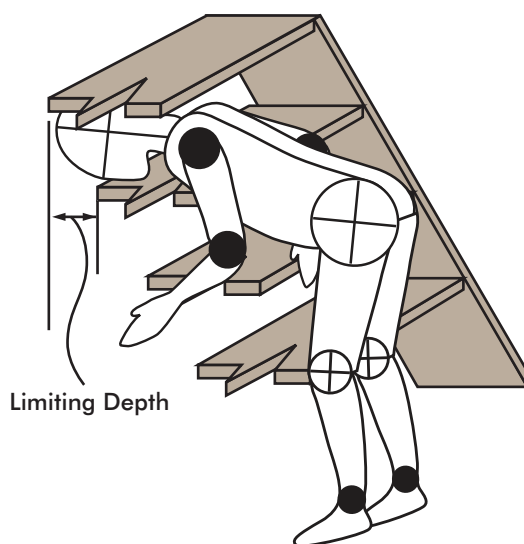

Figure B15. Completely bounded opening with limited depth
These recommendations apply to all playground equipment, i.e., toddler, preschool-age, and school-age children. Fixed equipment as well as moving equipment (in its stationary position) should be tested for entrapment hazards. There are two special cases for which separate procedures are given: (1) completely-bounded openings where depth of penetration is a critical issue (see Figure B15) and (2) openings formed by flexible climbing components.